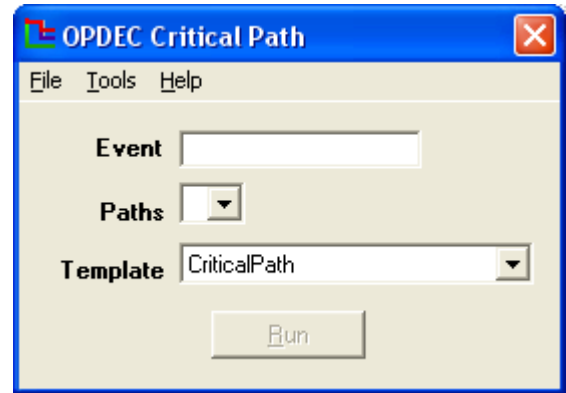

Figure 5
- 2) Enter the event (as stated in the ‘Event Identification’ field) for which you want to determine critical path, and select the number of paths (up to five) to display (Figure 5).